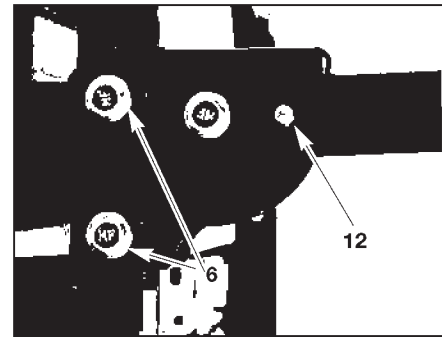

Figure 13
**NOTE:** Orientation of handle assemblies to frame will depend on how the operator wishes to operate snap button (12). If snap button is assembled to outside of the generator frame it will be operated by the fingers. If snap button is assembled to inside of the generator frame it will be operated by the thumbs. Figure 13 shows the snap button assembled to outside of generator frame.